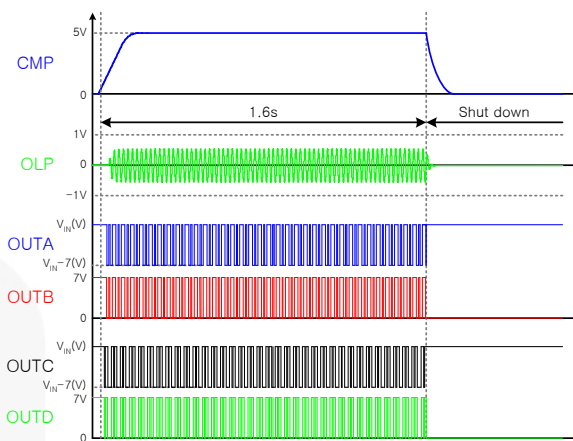
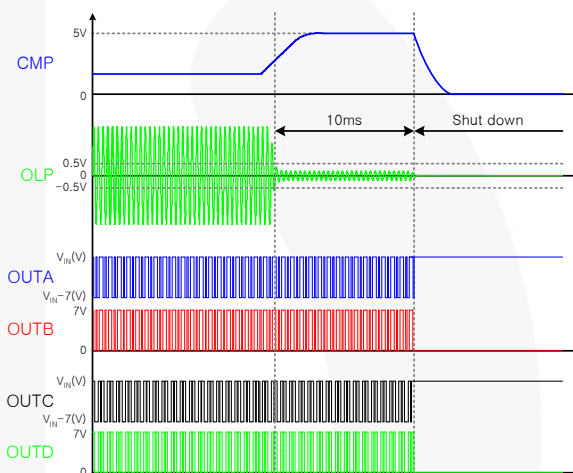

Figure 51. Open-Lamp Protection in Striking Mode
Figure 52. Open-Lamp Protection in Normal Mode
**Open-Lamp Protection:** If the minimum of the rectified OLP voltages ( $V_{OLP}^{\min}$ ) is less than 1V during initial operation, the IC operates in striking mode only for 1.6s, as shown in Figure 51. After ignition, if  $V_{OLP}^{\min}$  is less than 0.5V in normal mode, the IC is shut down after a delay of 10ms, as shown in Figure 52.